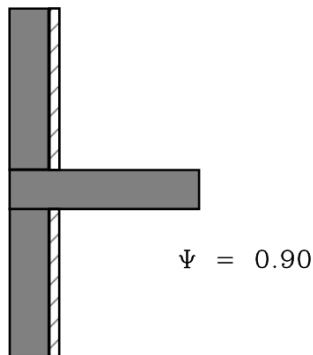

Figure 10: A reproduction of a simplified concrete wall assembly with interior insulation at through wall slab from ISO 14683:2007
- In the absence of more specific information, **ISO 14683:2007 “Thermal Bridges in Building Construction”** (CEN, 2007) provides generic linear transmittances for simplified constructions. This standard outlines the methods of calculating linear transmission used in the European standards and provides an Annex with default Ψ values for many of the common interface details. The default values are based on very basic geometric shapes representing building components, as shown in Figures 10 and 11, resulting in conservative transmittance values. For example, complex heat flow paths created by misaligned glazing thermal breaks or flashing are not captured by these values. This standard also provides multiple linear transmittances based on different dimensioning procedures. See the breakout box “A Note on Linear Length and Area Takeoffs for the Detail Oriented” in section 3.4.1 for more information.